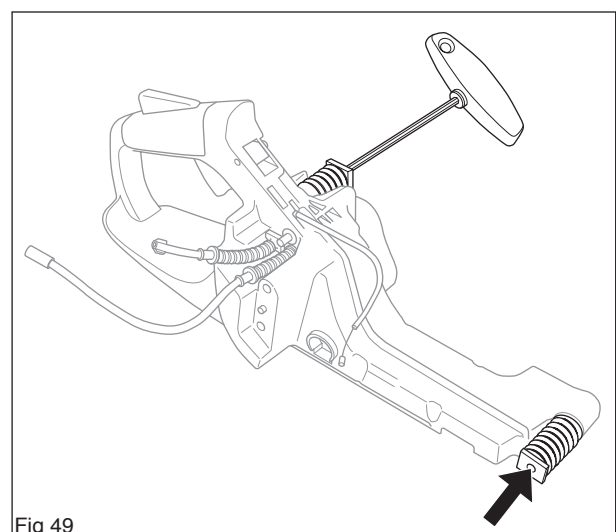

Fig 49
3. Dismantle the springs on the tank unit with the help of a 4 mm allen key. (tool 502 50 87-01) (see figure 49)